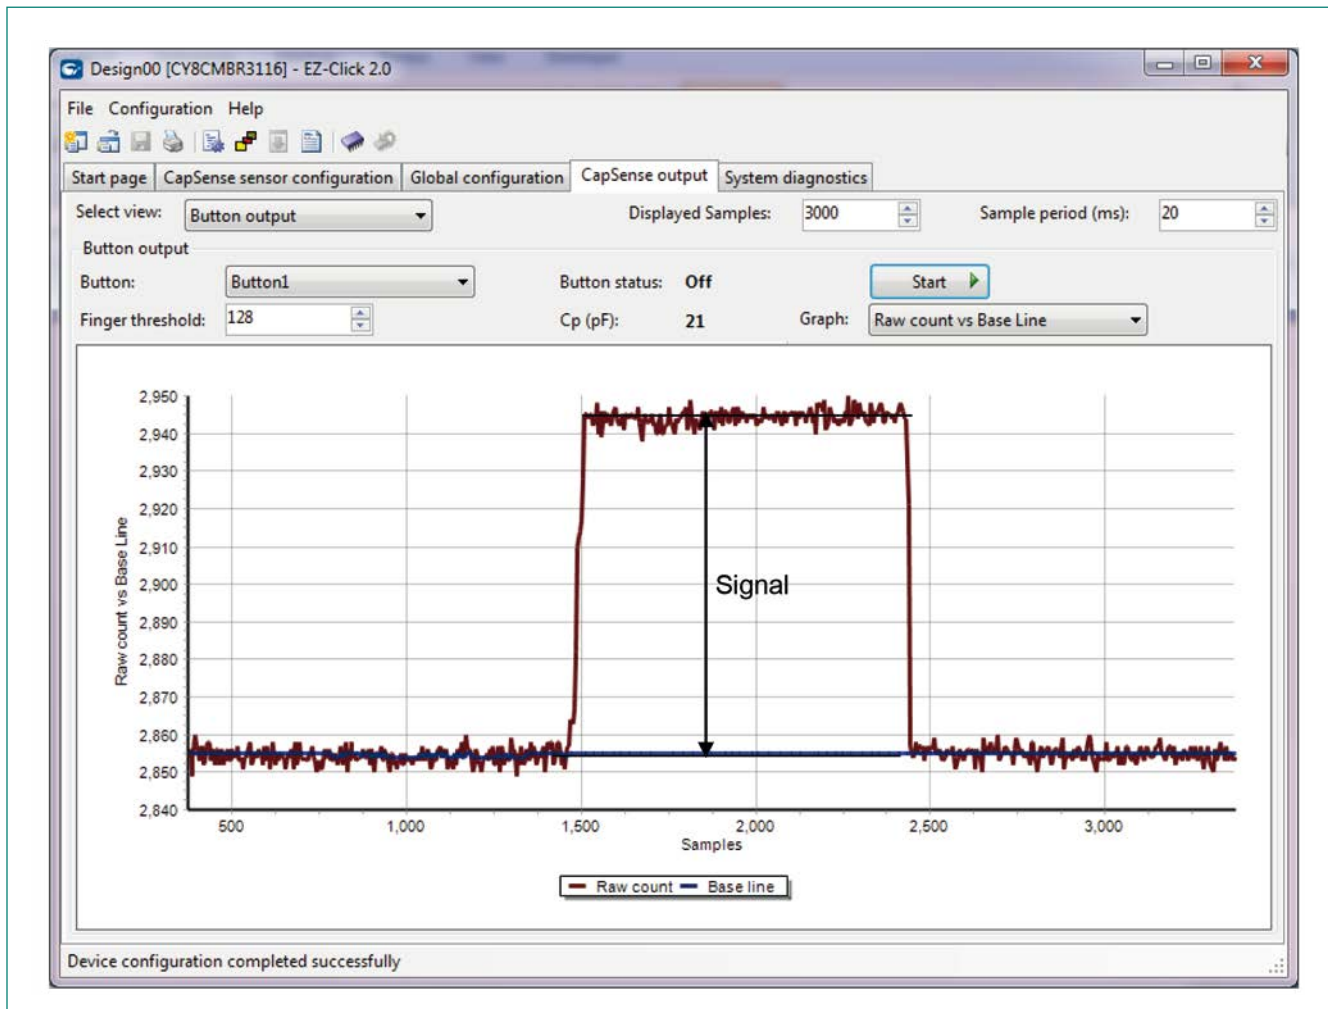

Figure 6-2 Measuring the Signal in EZ-Click Customizer
3. Measure the shift in raw counts from the no touch to touch state, as Figure 6-2 shows.
For the graph shown in Figure 6-2, Signal = 2945 - 2855 = 90 counts